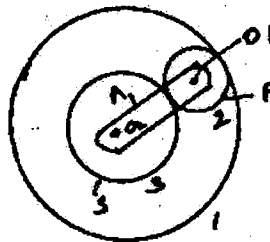

Fig. 6
- (b) (i) An epicyclic gear train consists of three gears 1, 2 and 3 as shown in fig.6 the internal gear 1 has 72 teeth and gear 3 has 32 teeth. The gear 2 meshes with both gear 1 and gear 3 and is carried on an arm A. which rotates about the centre O_2 at 20 rpm. If the gear 1 is fixed, determine the speed of gears 2 and 3. (12)